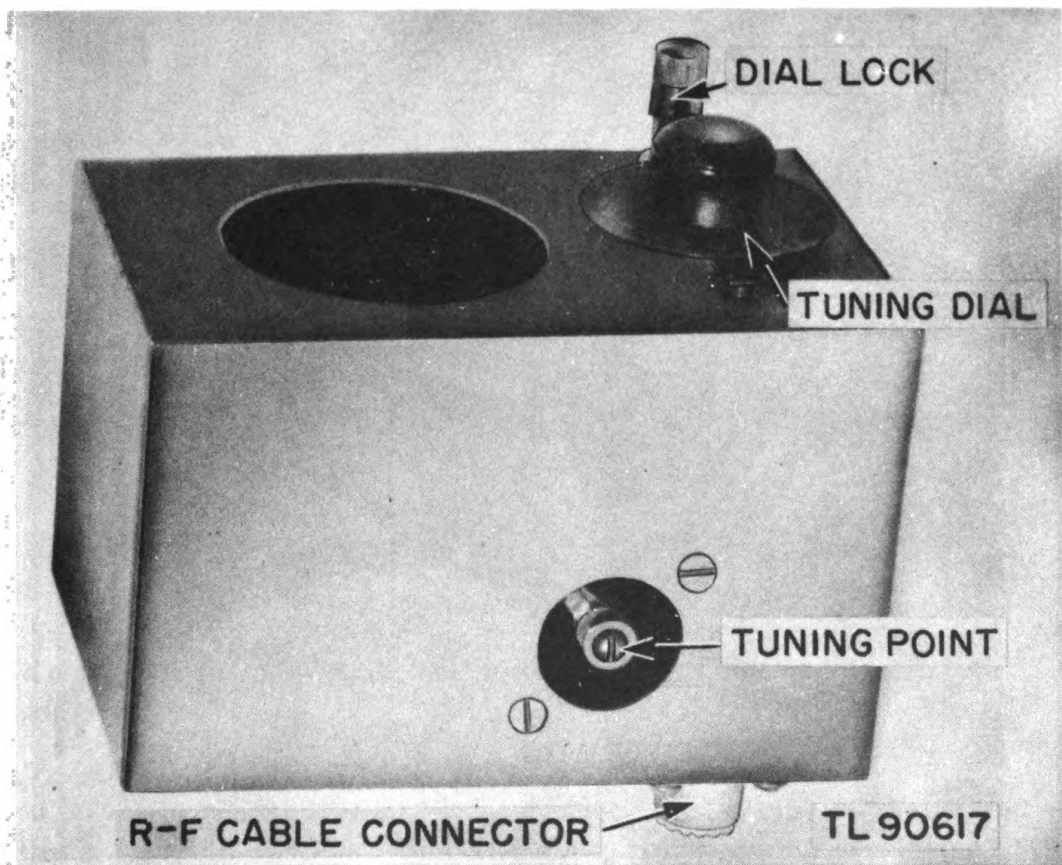

Figure 14. Resonance Tuner BC-1305.
**14. RESONANCE TUNER BC-1305.** The resonance tuner (fig. 14), is a  $\frac{1}{16}$ -gauge, olive drab finish, cold-rolled steel box housing a stationary coil of two windings and a variable capacitor. One side of the box is removable
r-f current meter on the transmitter or a neon bulb, with glass portion held close to the neon glow tuning point (fig. 14) on the resonance tuner, will serve to indicate resonance. Adjust the tank circuit capacitor for greater r-f output and readjust the antenna tuner capacitor. Repeat these adjustments until maximum output is reached. The tank circuit capacitor should not be touched again in tuning the other channels.